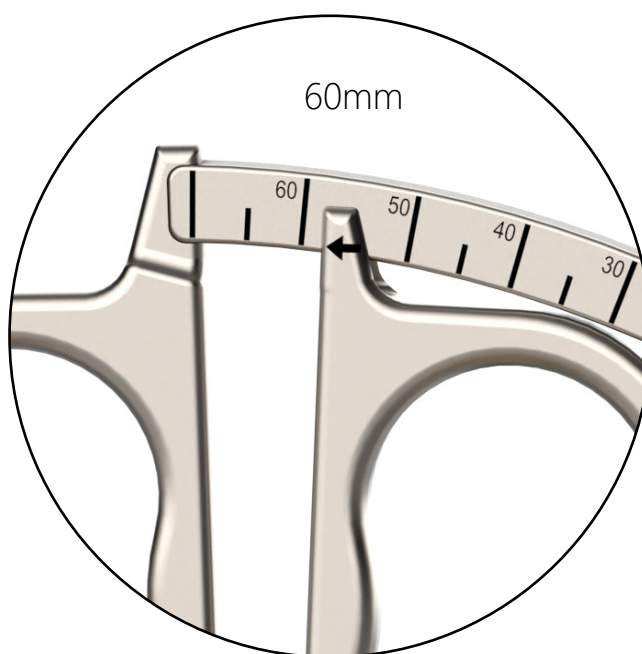

Figure 5.2
**NOTE:** If the measurement indicated is at the transition between two sizes, it is recommended to choose the larger of the two sizes (Figure 5.2).